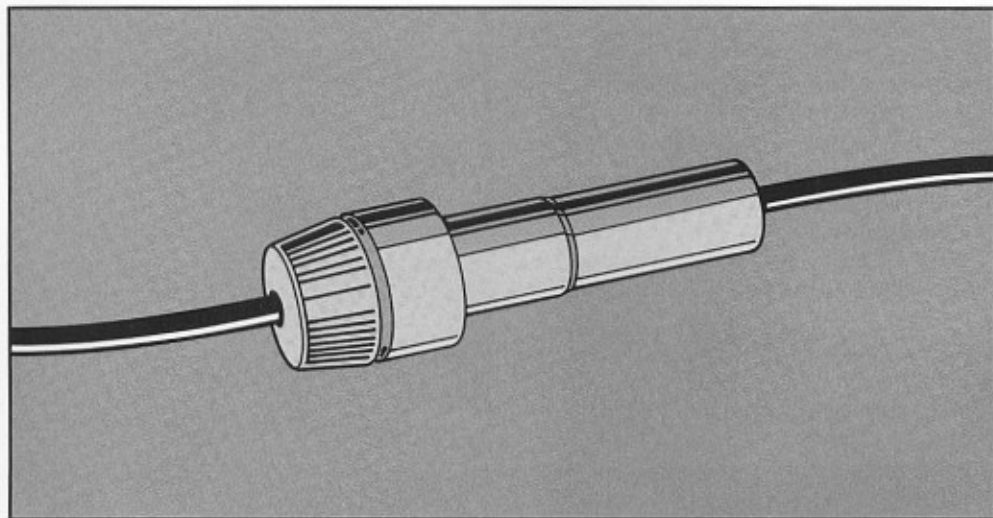

Figure 4. Fusing the speakers. Insert fuse holder between positive speaker wire end and positive speaker terminal.
1. The fuse is inserted into the speaker circuitry by simply wiring a fuse holder to the + (red) terminal of the speaker. **Refer to Figure 4.** The speaker wire then connects to the holder, putting the fuse holder between the speaker's + (red) terminal and the receiver/amp's + terminal.